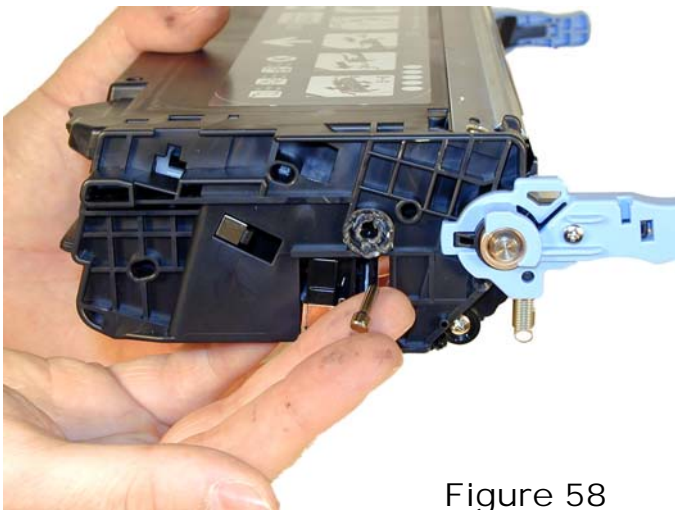

Figure 58
39) Align the two halves and install the hinge pins, short pin to the non-gear side, and long pin to the gear side. See **Figures 58 & 59**